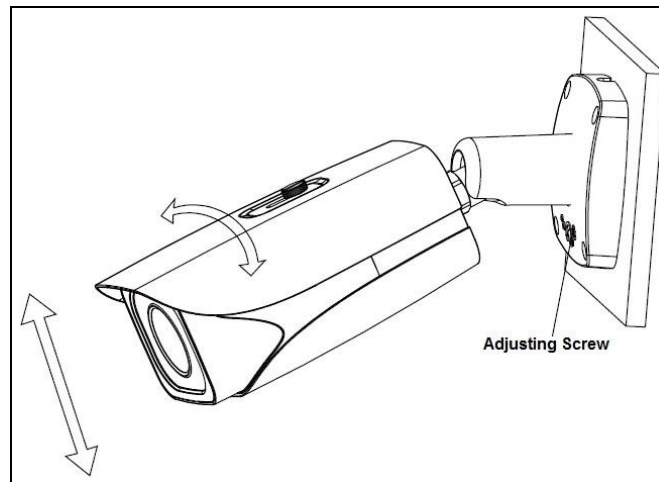

Figure 4-4
8. Route the cables from the back of the camera through the installation medium and align the four (4) holes on the base of the camera with the expansion bolts.
13. Adjust the monitoring direction of the camera. Use a screwdriver to loosen the adjusting screw on the base of the camera, then position the camera by tilting, twisting, and rotating the camera as shown in Figure 4-4, below. Use the following camera adjustment limits: